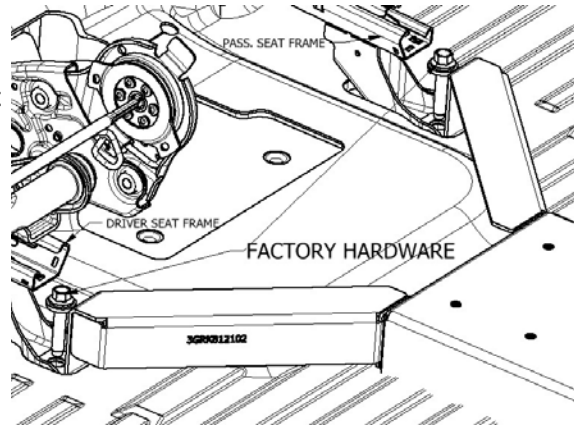

Figure 2a
- D. Place the tabs of the Front Legs onto the driver and passenger front seat mounts (Fig. 2a) then lower the rear of the assembly into position. The large hole in the Rear Bracket should align with the inner front seat bolt for the driver side second row seats (Fig. 2b).
- E. Loosely reinstall the (3) OEM bolts removed in steps B and C back into their respective holes. Reapply thread locker to OEM bolts as necessary.